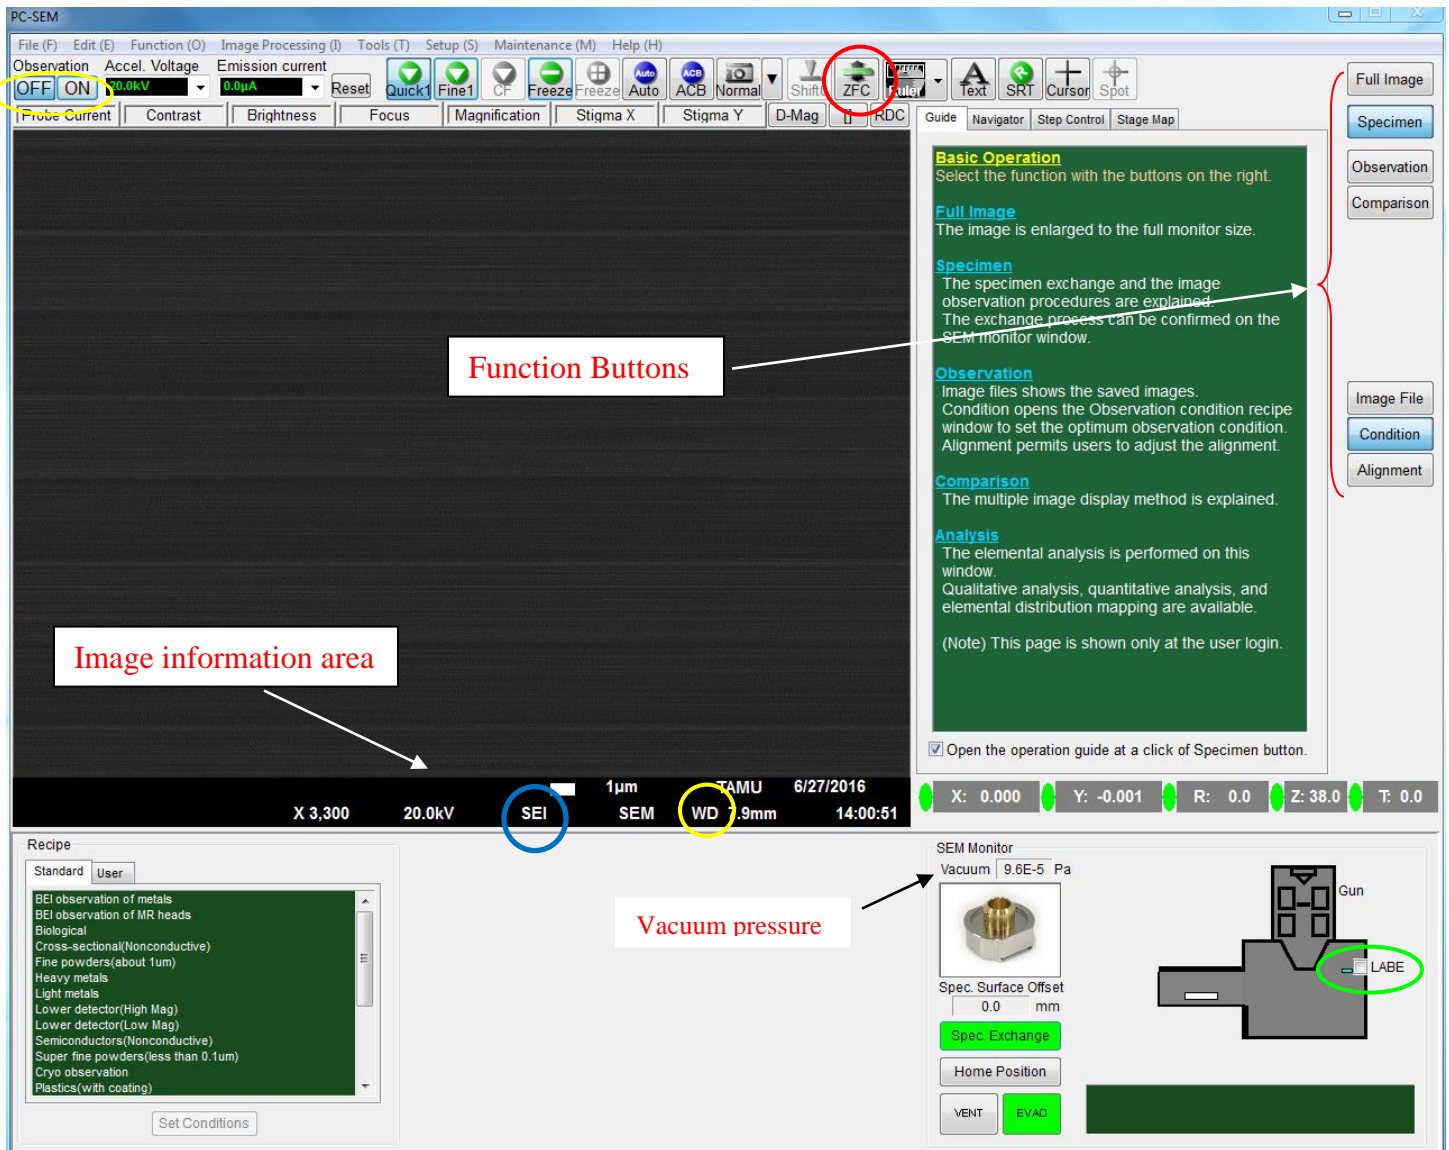

Figure 1. PC- SEM window
- (c) Turn on the Acceleration voltage (*circled in yellow* on **Fig.1**): [ON]
FUNCTION BUTTONS (**Fig.1**): [Observation] Probe Current (generally 8 is a good choice).
(**image info area** is the black bottom of the image viewing part of the screen as shown in **Fig.1**)
- (e) If the contrast of the image is too high (if the image looks too bright or too dark), change your detector to **LEI** (*circled in blue in Fig.1*). If the image looks too dark (not enough electron yield), you will need to increase the probe current.
- (f) Bring image into focus with Stage Z control (manual control of stage) as follows: Activate [**ZFC**] (*circled in red on Fig.1*) use **TRACKBALL RING** until the sample surface comes into focus.
3. Insert **LBE** Detector in: in the SEM Monitor Window select the LBE detector check box (**circled in green** on **Fig. 1.**), wait till the Gun valve opens.